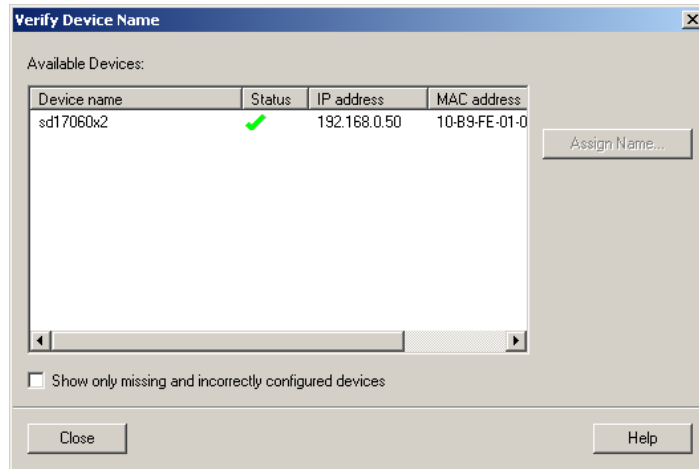

Figure T2.7 Verify Network Settings
- 5) Verify that the Networked Driver has been successfully added to the network. Select the Driver's icon. From the Toolbar Menu, select *PLC +> Ethernet +> Verify Device Name ...* The window shown in figure T2.7 should appear.